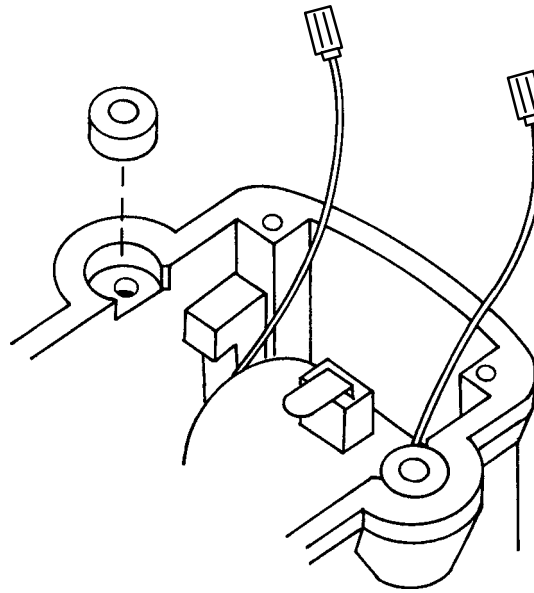

Figure 9.18
- C. Place distributor block spacers (33) on magneto frame (8). (See Figure 9.18).